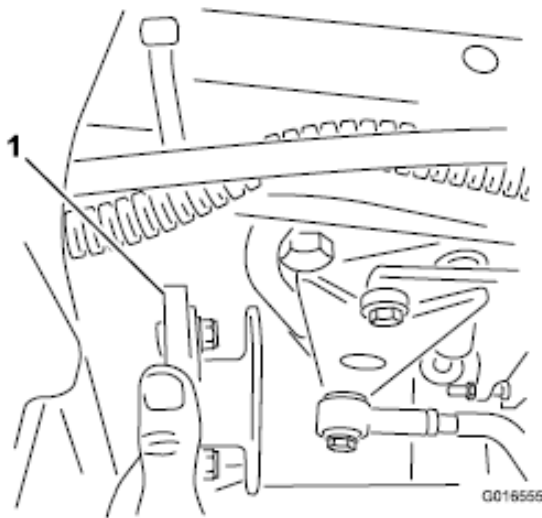

Figure 2
3. Pull the one disk and middle coupler out from the side of the engine cradle and traction unit (Figure 2).